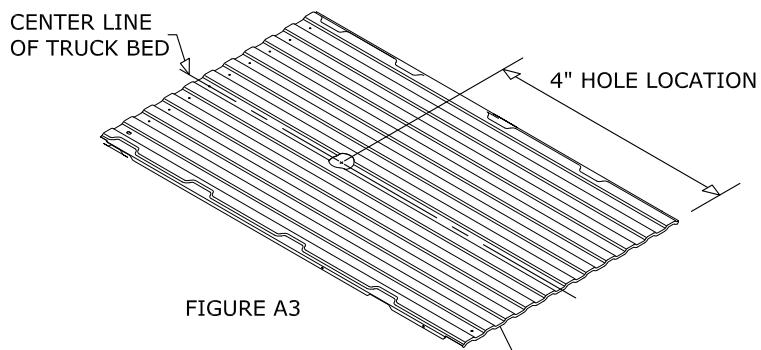

FIGURE A3
**7. Mark the 4" hole location.** Using a tape measure hooked over the rear edge of the bed (at tailgate end), measure the location for the hole as shown in figure A3. Next, locate the center of the bed by measuring the distance between the wheel wells and dividing by two. The center of the hole will be at the intersection of the center of the bed and the first distance measured